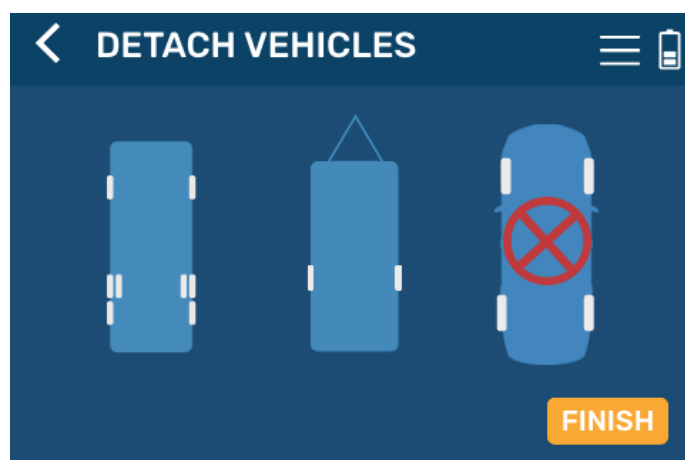

Fig.27
4. Select another vehicle to detach or tap FINISH (Fig.27) to return to the main tire pressure screen.
NOTE: The red X on a vehicle indicates the vehicle is detached (Fig.27).